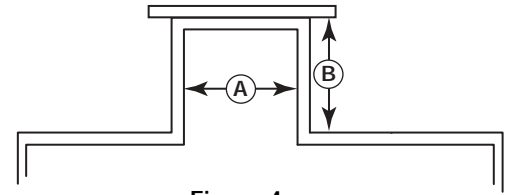

Figure 4
1. Nozzle must be 2" (50 mm) diameter (A) or larger.
2. Ratio of diameter (A) to length (B) is 1:1 or greater. Any ratio < 1:1 (e.g. a 2" x 6" nozzle = 1:3) can be used but may require a DEADBAND and/or SENSITIVITY adjustment. See Figure 4.